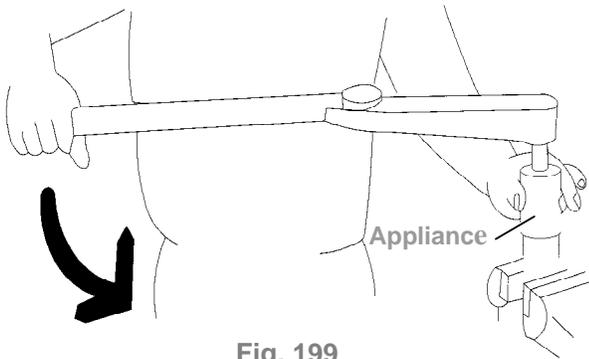

Fig. 199
(3) Pulse Unit Disassembly:
- ① Fix the pulse unit by a vise. Use the appliance (see Table 25) to loosen the lock nut on the pulse unit, Fig. 199.